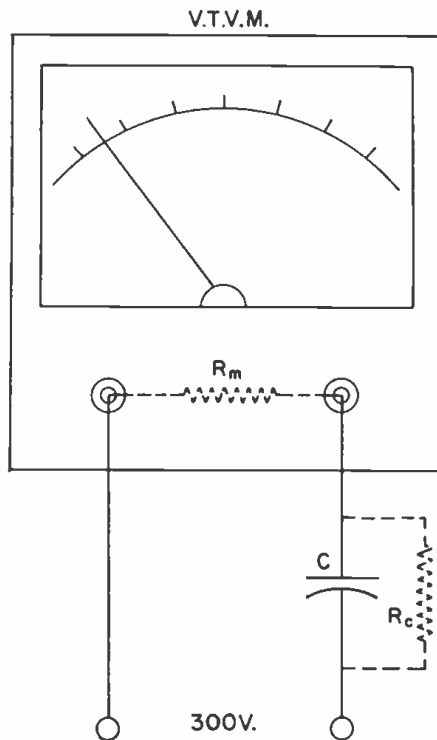

Fig. 1. Sensitive leakage measurement.
v.t.v.m., as in Fig. 1. Leakage resistance may then be determined from the following relationship: $R_c/R_m = E_c/E_m$; where R_c is the leakage resistance of the capacitor, R_m the input d.c. resistance of the v.t.v.m. (usually 11 megohms), E_c is the voltage across the capacitor, and E_m is the voltage read on the meter.
Capacitor C_x was disconnected at the second grid and checked with an analyzer, which passed it as being faultless. C_x was also checked as per the technique discussed in connection with Fig. 1; not the slightest leakage was indicated. Since every other component in the circuit had been substituted, C_x was now temporarily replaced with a tacked-in unit, and dawg-gone if that didn't cure the trouble.